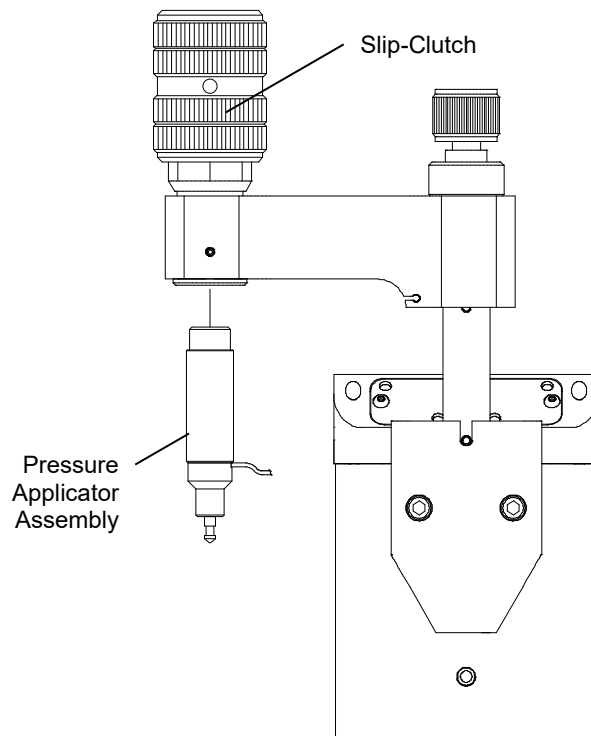

Figure 24 • Removing the Pressure Applicator Assembly
- While holding the pressure applicator assembly, turn the slip-clutch clockwise to lower and then remove the assembly (see Figure 24).